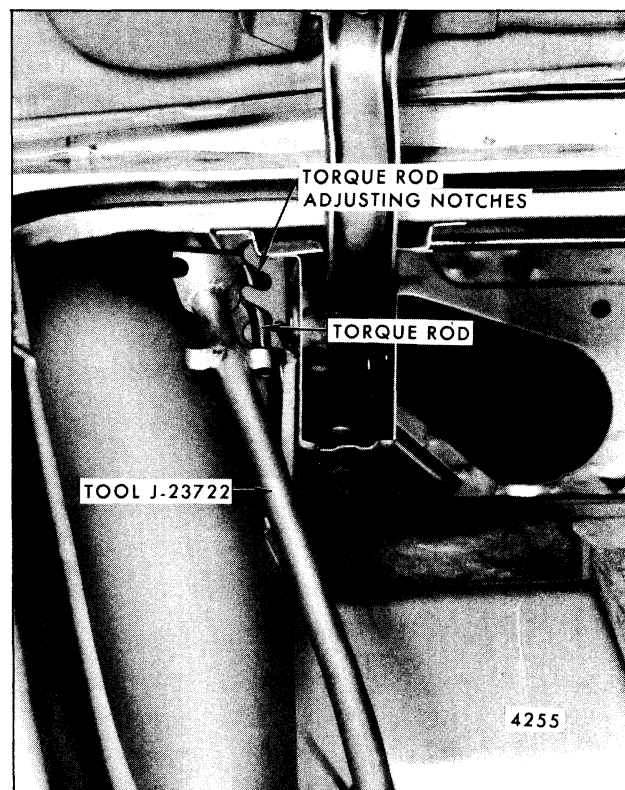

Fig. 7-22-Rear Compartment Torque Rod Adjustment - Cadillac "C and E" Styles
- c. On Cadillac "C and E" styles, use tool J-23722 or equivalent (Fig. 7-22).